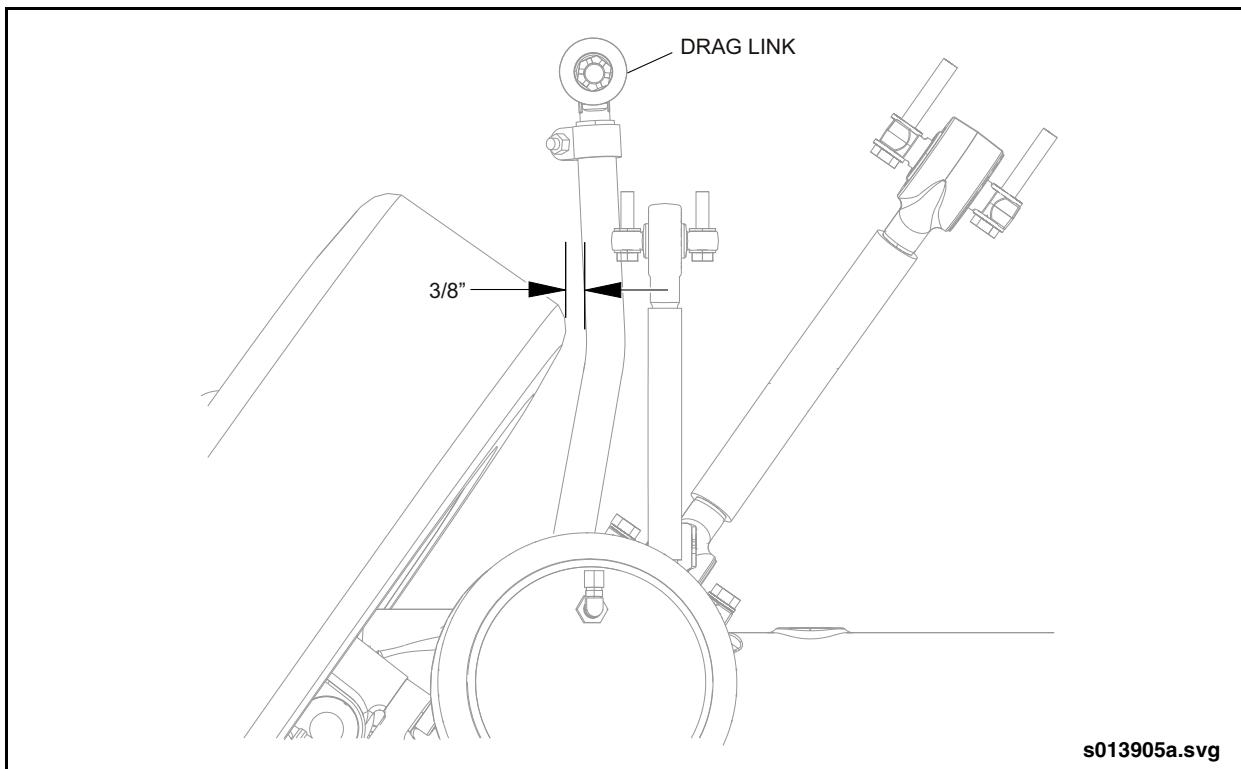
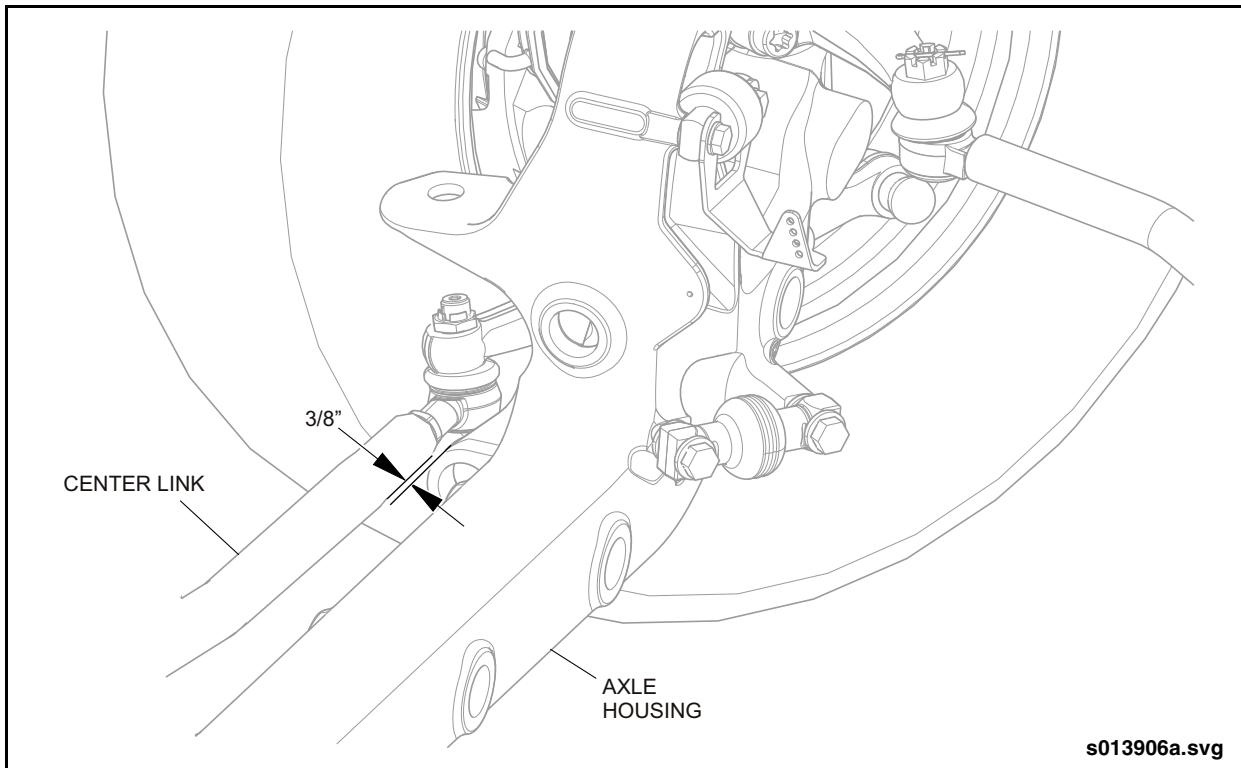

Fig. 3-1: Tire to Drag Link Clearance
Fig. 3-2: Center Link to Axle Housing Clearance
4. Steer wheels to the right and measure the distance from the tire to the drag link. See "Fig. 3-1: Tire to Drag Link Clearance" on page 6. Alternately measure from the center link to the axle housing. See "Fig. 3-2: Center Link to Axle Housing Clearance" on page 6. The smallest allowable gap is 3/8".